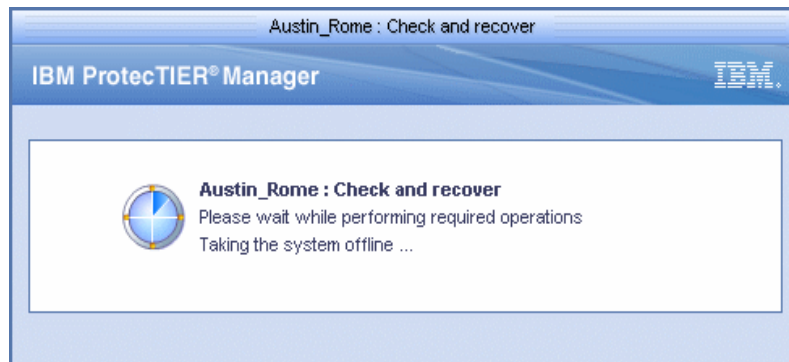

Figure 10-123 Check and recover window
2. Click **Yes**. The ProtecTIER system goes offline and scans itself (Figure 10-123).